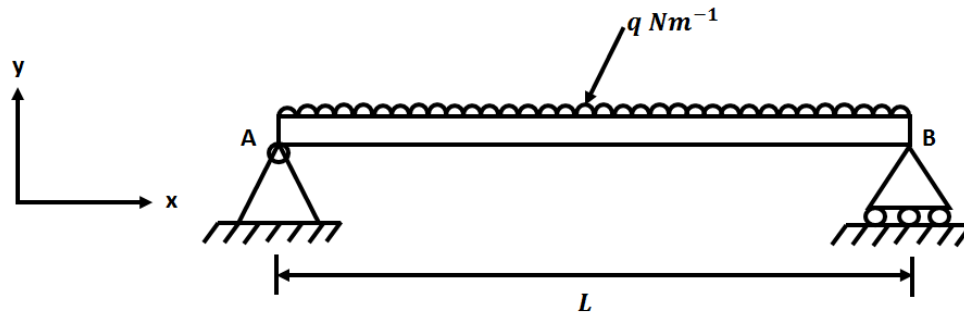

Fig. Q4 (b)
- c) The simply supported beam shown in Fig Q4 (b) is subjected to a uniform load of intensity q acting throughout the span of the beam. The beam has length L and constant flexural rigidity. Determine: